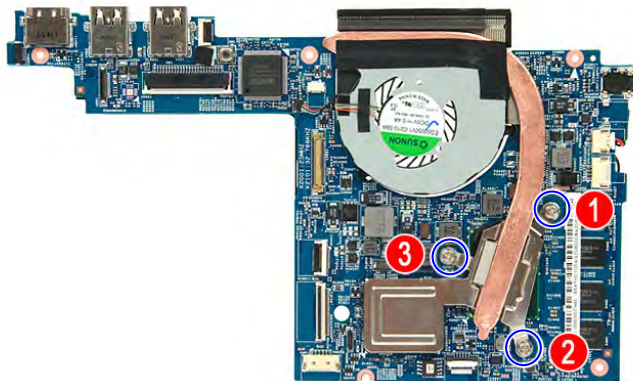

Figure 3-46. Thermal Module Screws
4. Loosen the spring-loaded captive screws securing the thermal module. Follow the screw sequence indicated on Figure 3-46.